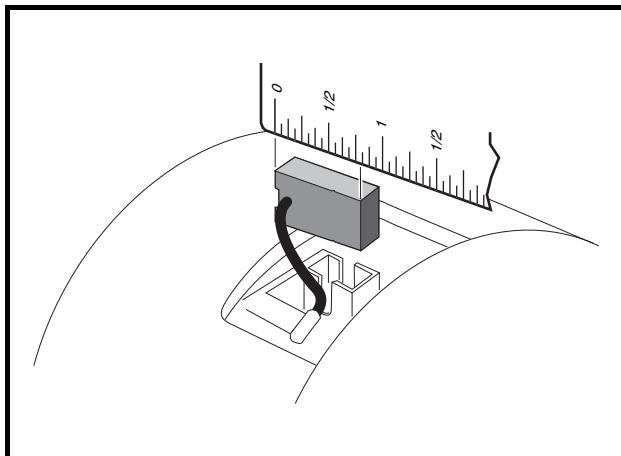

Figure 12-18 Inspect Brushes
2. Check the length of each brush. If the overall length of any brush is less than 0.79 inch (20 mm), replace all four brushes (**Figure 12-18, Page 12-12**).